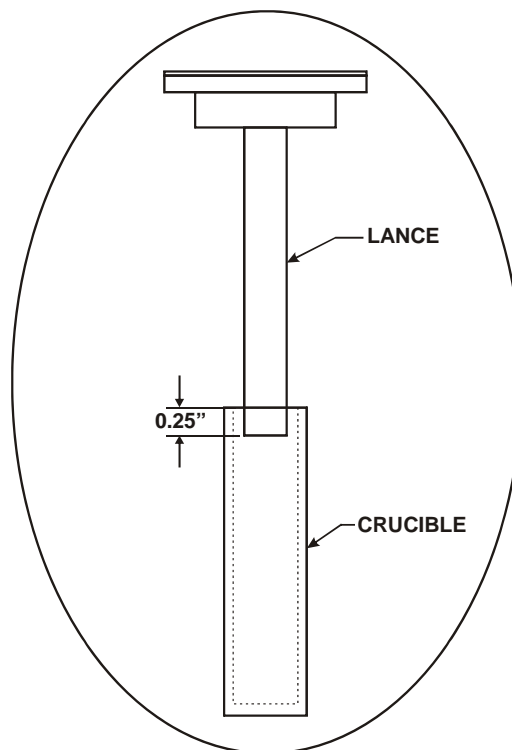

Figure 2-2
| Figure 2-2 Lance Installation..... | 2-8 |
4. Hold the lance by the removal tool and carefully lower it in place. Unscrew the lance extractor tool. The bottom of the lance should be positioned $\frac{1}{4}$ " inside the top of the crucible. Check alignment and position before the combustion tube is installed. Refer to Figure 2-2 below.